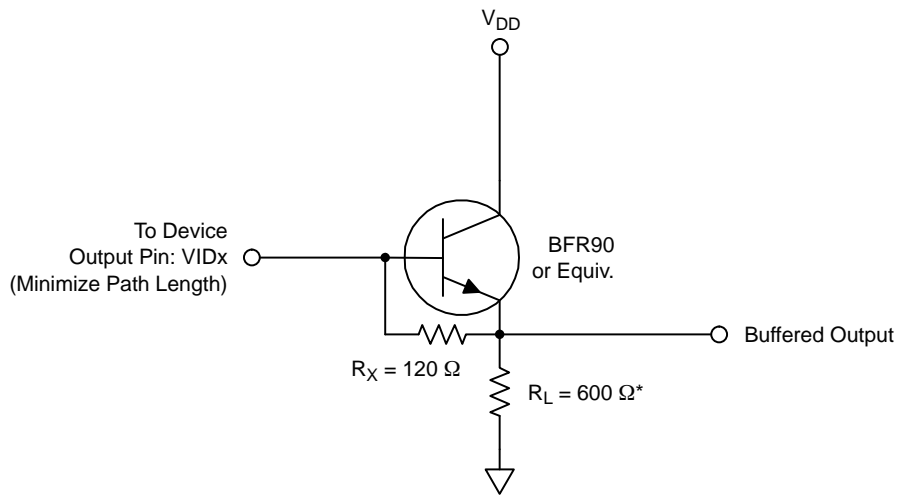

Figure 23. Typical Output Bias/Buffer Circuit
1. A current sink must be supplied for each output. Load capacitance should be minimized so as not to limit bandwidth. The values of R_X and R_L should be chosen to optimize for a given operating frequency, but. R_X should not be less than $75\ \Omega$. The values shown in Figure 23 below represent one possible solution.